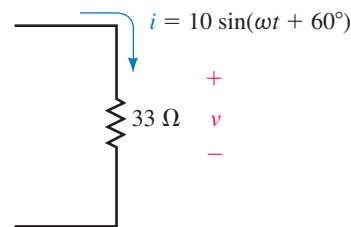

FIGURE 18-79
- Repeat Problem 1 for the resistor of Figure 18-79.